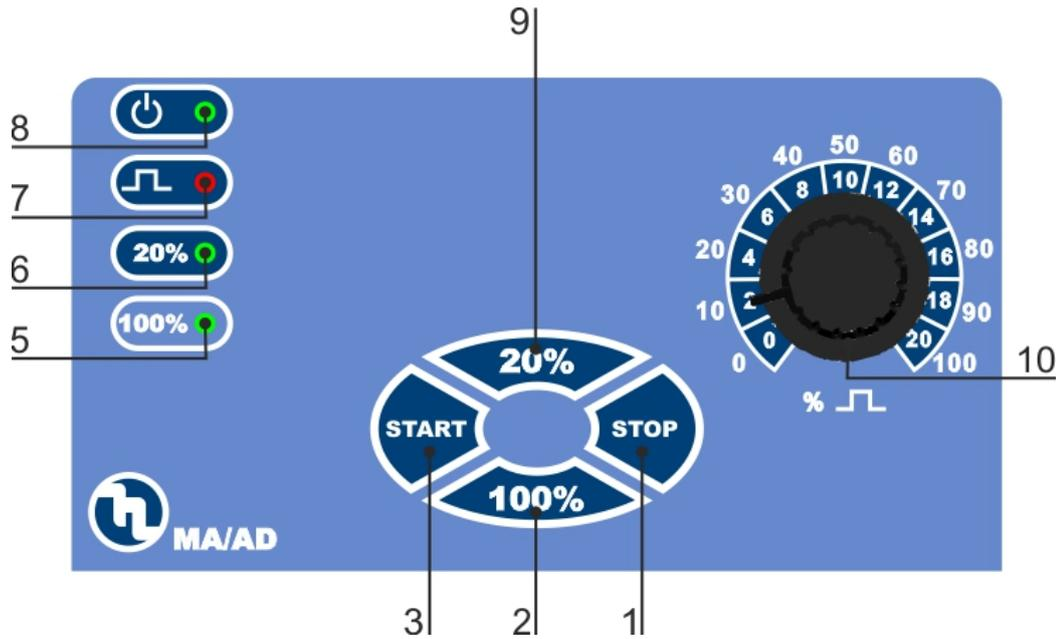

Fig. 12
### 6.1 - PUMP CONTROLS (Fig.12)
*As the system is quite robust there are no apparent mechanical problems. Occasionally there might be a loss of liquid from the nipple because the tube nut has loosened, or more simply the discharge tubing-has broken. Very rarely there may be losses caused by the breakage of the membrane, or by the membrane seals in which case they have to be replaced by disassembling the four screws of the pump head (fig. 12), when re-mounting the pump head ensure that the screws are replaced properly, along with "O" ring. After repair, the metering pump will need to be cleaned of additive residues which can damage the pump casing.*
- a. *Dismount the suction and discharge valves, clean them and replace, see position (fig. 12). Should the valves be swollen, check valves material against our chemical resistance compatibility chart and fit correct valves. Standard valves are Viton. Upon request Silicon, EPDM (Dutral), Nitril and valves, ball check valve, K valve can be supplied.*